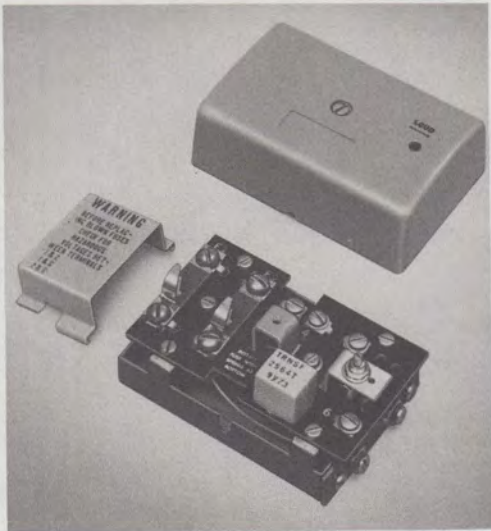

Fig. 12—33A Voice Coupler
- (1) Remove cover from coupler.
- (2) Mount coupler at location which permits customer to make connections and also allows connection to system.
**Caution:** Ensure that 35P fuses are installed with the spring at the bottom (Fig. 12) and set the volume control at approximately mid-range.
- (3) Connect primary station(s) to the voice coupler per Table C.
- (4) Replace cover.
- (5) Have customer connect his music source as shown in Table C.